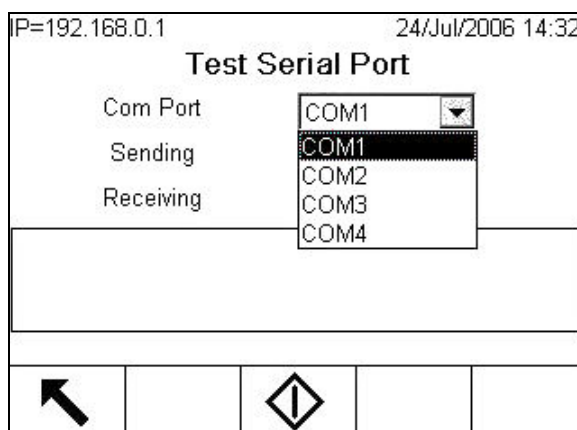

Figure 3-23: Serial Test Setup Screen
- Serial Test—Enables testing of the transmit and receive functions on the serial (COM) ports. Select the COM port to be tested using the selection box for Com Port (Figure 3-23). Only those ports installed are available for testing.